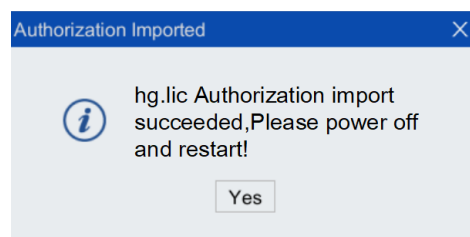

Figure 2-3 Authorization dialog box
- Step6. If the authorization import dialog box shown in Figure 2-3 pops up and displays "Import succeeded", click <Yes> to complete the authorization.